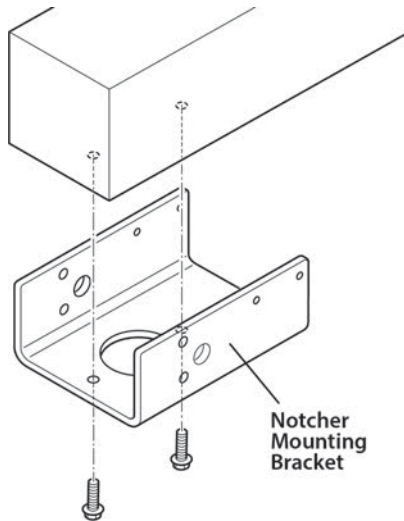

Figure 5
2. Attach the Notcher Mounting Bracket to the Punch Ram Guide Block using the screws removed earlier (see Figure 5).